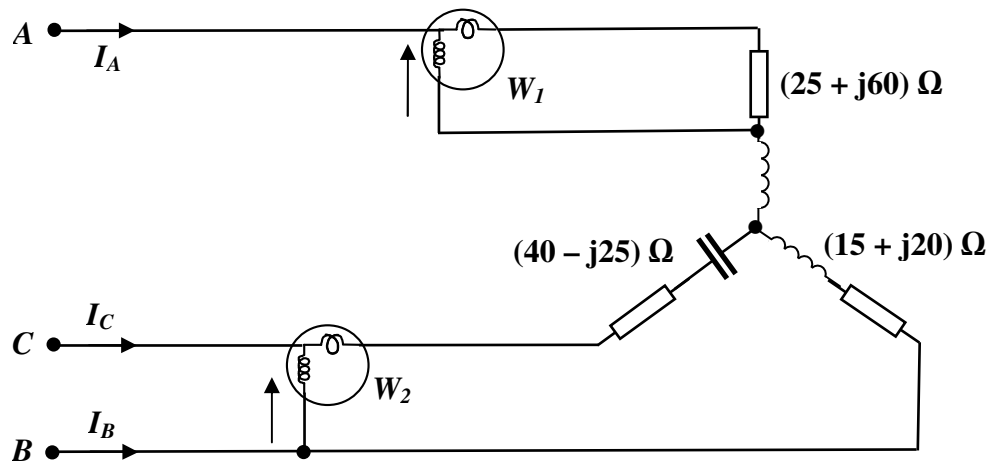

Figure A1.1
A three-phase, star-connected load is supplied via a balanced 6.6kV, three-phase, 3-wire supply, of phase sequence ABC. The three-phase load consists of three single-phase loads of $(25 + j60) \Omega$, $(15 + j20) \Omega$ and $(40 - j25) \Omega$, connected between phases A, B, C and the load star point respectively, as shown in Figure A1.1.
- (i) calculate the current in each phase of the load (7)
- (ii) hence calculate the voltage across each phase of the load (2)
- b. Two wattmeters, W_1 and W_2 are to be used to measure the input power to the load. However, during installation the wattmeters were incorrectly connected as shown in Figure A1.1:
- (i) sketch the phasor diagram for the system showing the three line and phase voltages of the supply, the voltages across the wattmeter voltage measuring coils, the three line currents and their relevant angles. (4)
- (ii) hence, calculate the readings on the two wattmeters. Comment on the relevance of the readings on W_1 and W_2 . (3)
- (i) Describe how W_1 may be reconnected to correctly measure the power in the unbalanced load and calculate the new reading for W_1 . (2)
- (ii) Verify that the sum of the power readings on the two wattmeters measures the true power dissipated in the unbalanced three-phase load. (1)
- (iii) If the star point of the load was connected to the neutral point of the supply would the sum of the power readings on the two wattmeters still measure the true power? (Assume the neutral conductor has zero impedance and that the Wattmeters are correctly connected). (1)